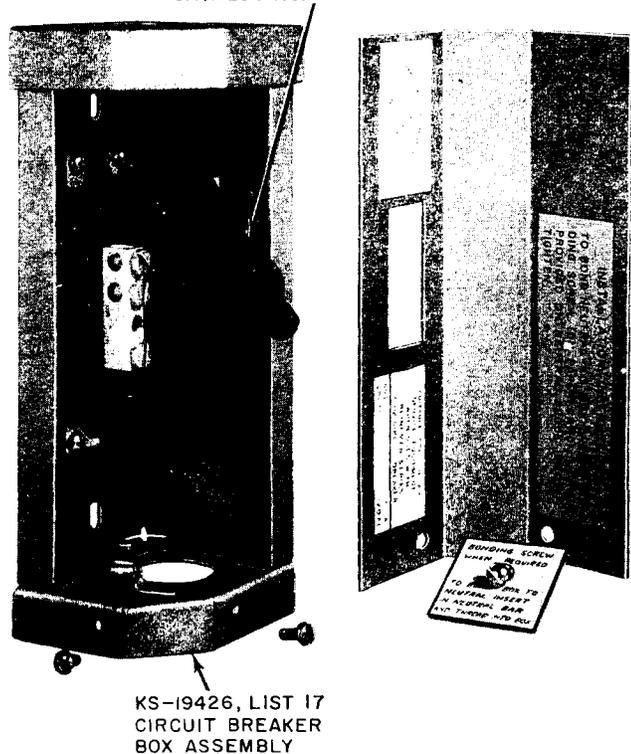

Fig. 9—Circuit Breaker Box With Circuit Breaker Installed
3.05 Use a KS-19426, List 17 (Fig. 9) service entrance box and install on the bracket provided in lower portion of post or post base (Fig. 1 or 3).
3.06 Use a Heineman Electric Co., No. 0912 single-pole circuit breaker, 120-volt ac, 15 ampere, time delay curve No. 3. Purchase locally as catalog No. 91-106-1. See Fig. 9.